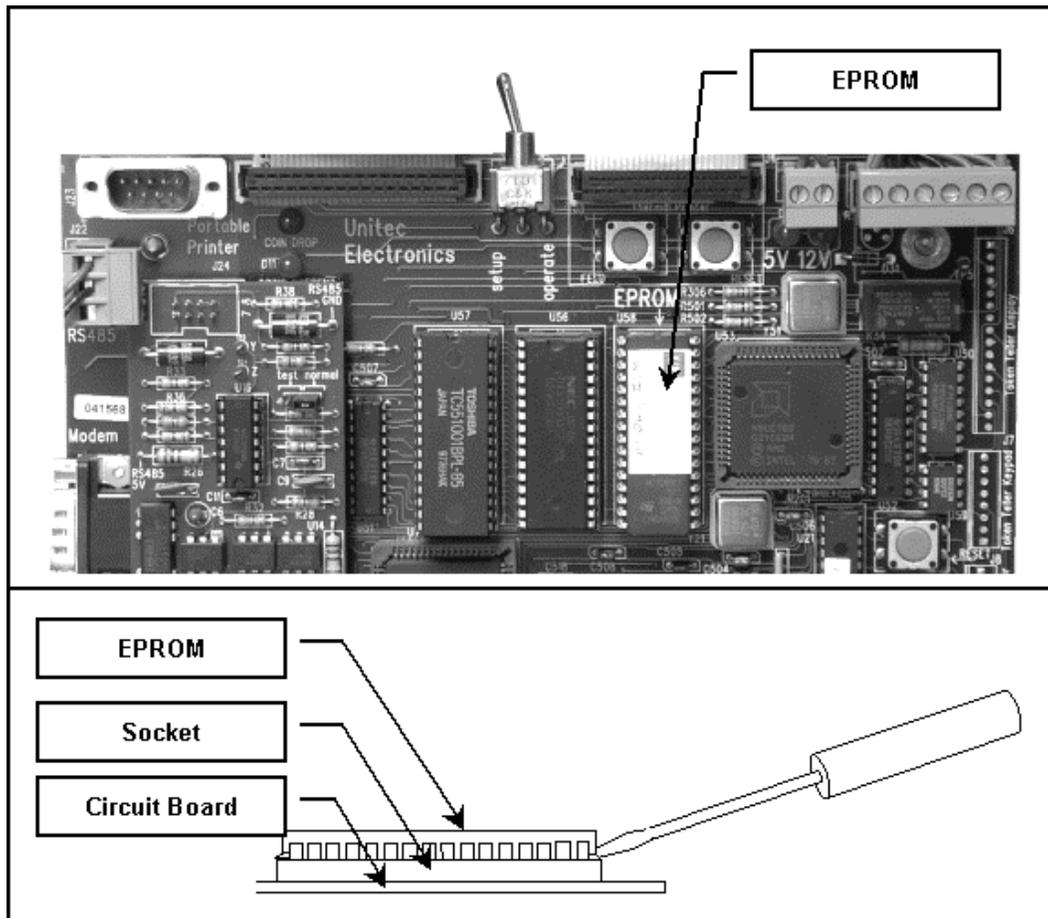

Figure 3. Locating and Removing the EPROM
1. Remove the existing EPROM located at connection U58 on the CPU board (see Figure 3) by inserting a small flat-blade screwdriver between the EPROM and the socket and prying it off. Be careful not to damage the socket or the circuit board.